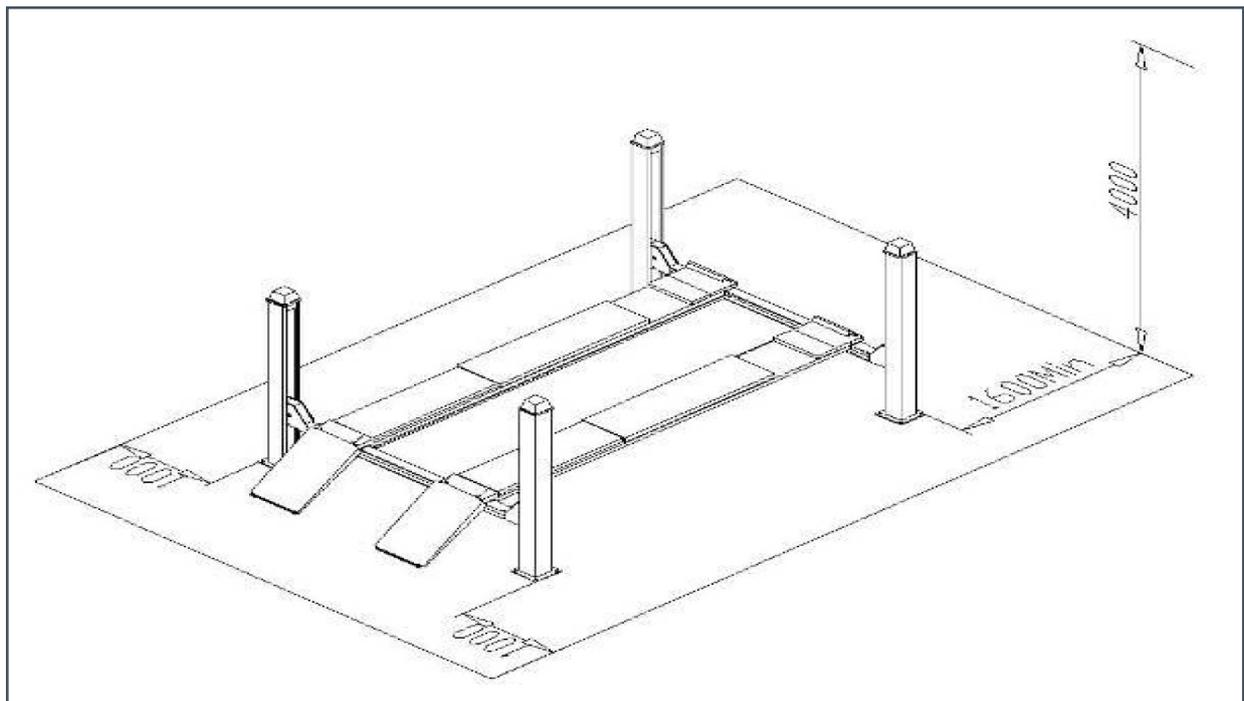

Figure 12
- The lift must be installed in accordance with the minimum specified distance from walls and other equipments. (Figure 12)